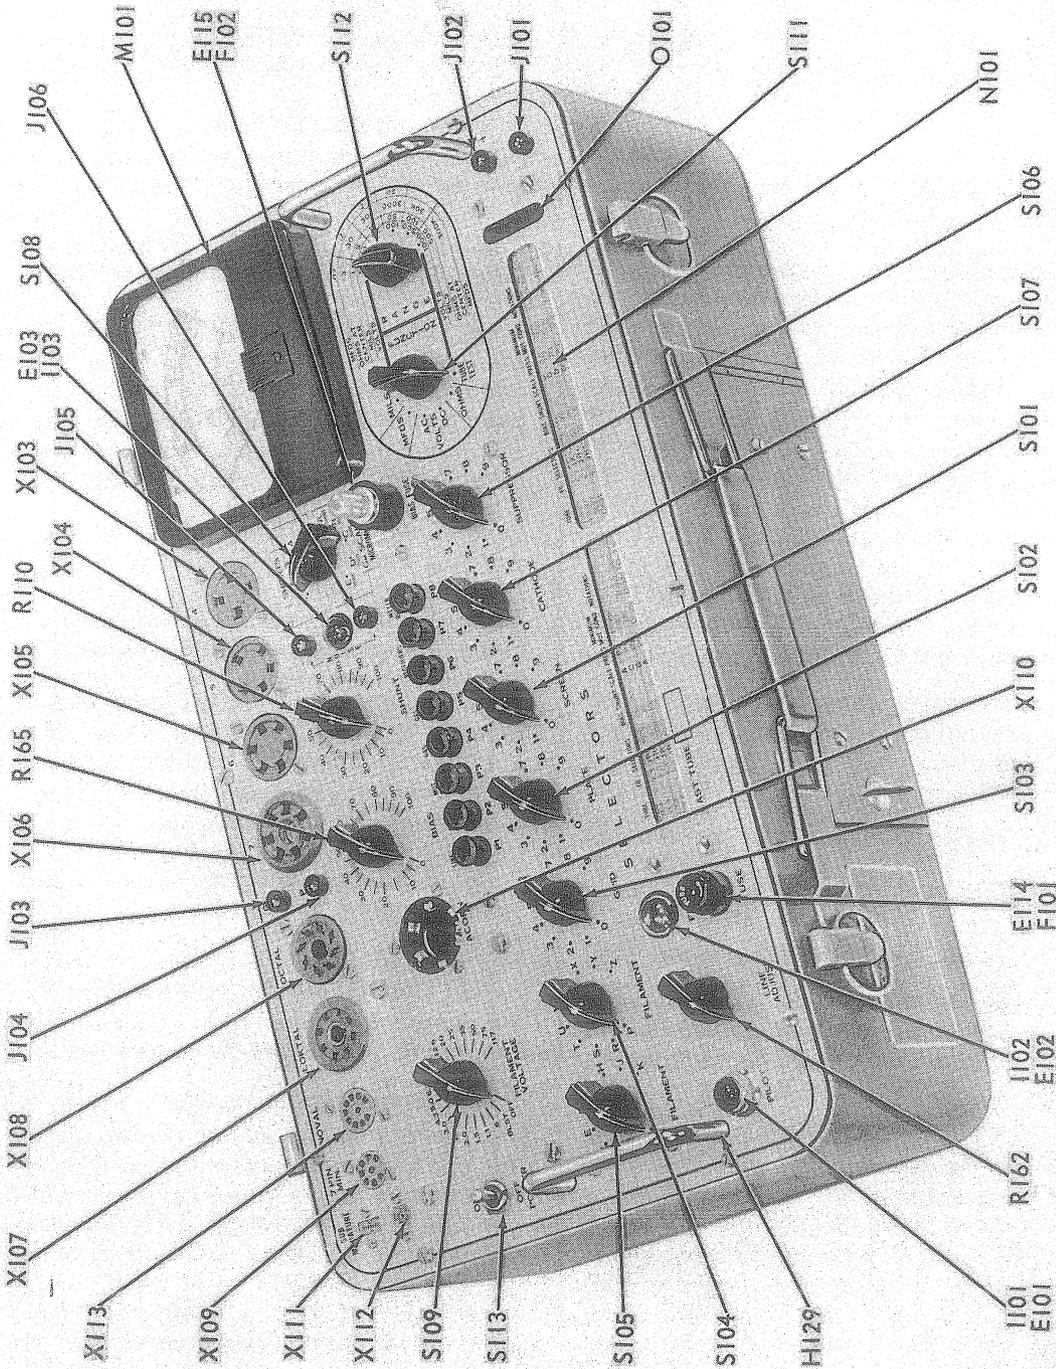

Figure 4-1.—Front View of Tube Tester TV-3C/U Showing Controls by Symbol Designation.
a. Refer to the photograph of the Tube Tester TV-3C/U, Figure 4-1, or preferably to the tester itself.
- (1) The tube sockets are grouped along the top edge and in the upper left hand section of the panel as follows: Along the top edge reading from left to right are test sockets for SUBMINIATURE tubes, 7 PIN MINIA-TURE tubes, 9 pin NOVAL base miniature tubes, LOKTAL and OCTAL tubes, a combination large and small radius socket for standard 7 pin tubes which also provides a pilot lamp test receptacle and, sockets for standard 6, 5 and 4 pin tubes. An acorn tube socket designed to accommodate all tubes of this type now in use is located at the right of the FILAMENT voltage switch.